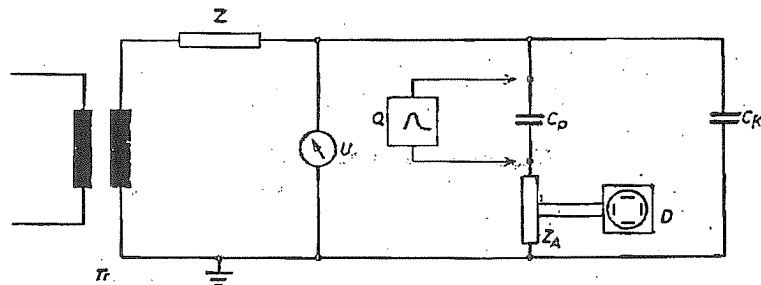

Fig. 9 Test Connection for Partial Discharge Test
b) Test connection coupling quadripole series connected with test loops (see Fig. 9).